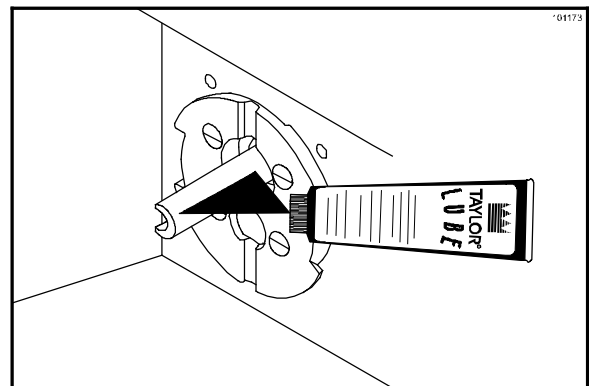

Figure 11
8. Using a small amount of Taylor Lube, lightly lubricate the piston shaft. (See Figure 11.)